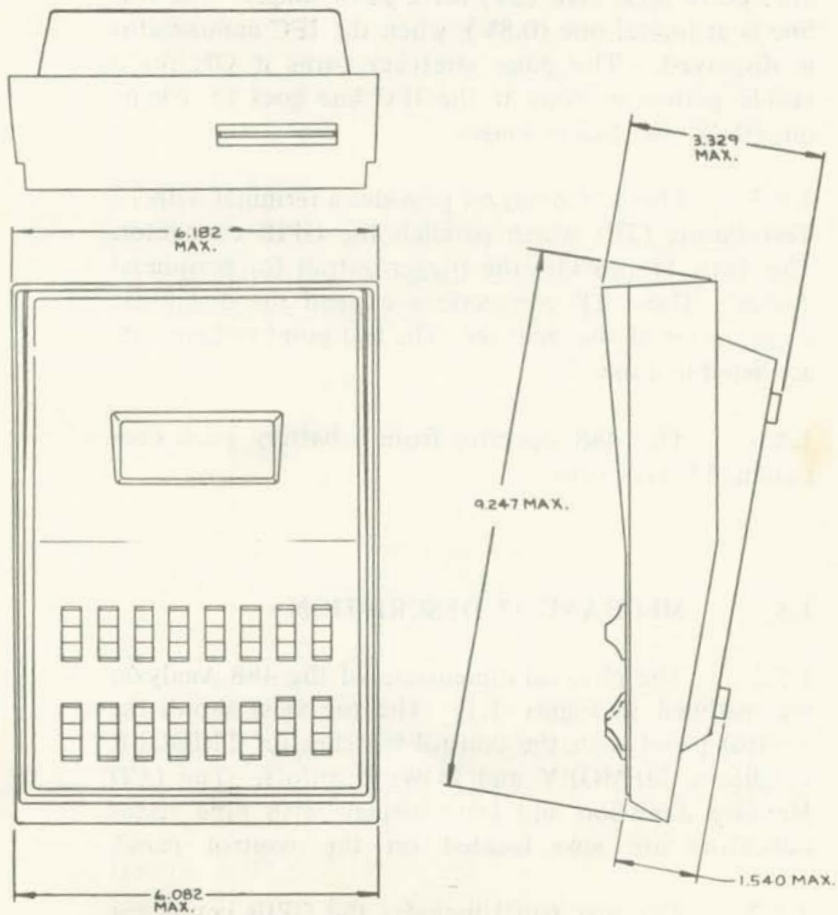

Figure 1.1 - Dimensional Outline
1.5.1 The physical dimensions of the 488 Analyzer are outlined in Figure 1.1. The top view shows the control panel with the control switches for TRIGGER condition, MEMORY and POWER on/off. The LCD Memory Location and Data display with nine status indicators are also located on the control panel.